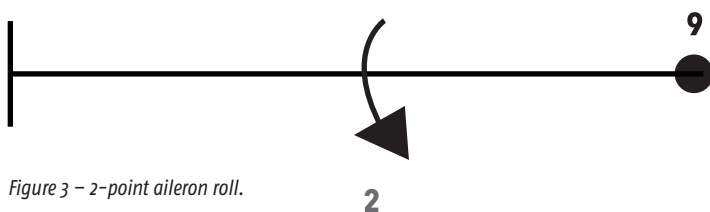
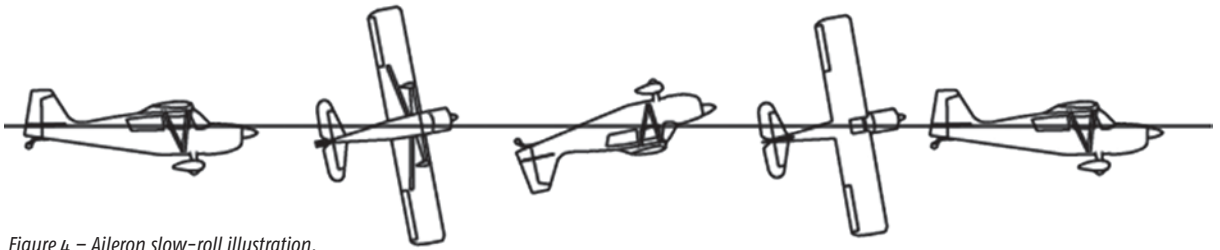

Figure 3 - 2-point aileron roll.
Figure 4 – Aileron slow-roll illustration.
**The 2-POINT AILERON ROLL:** (Figure 3) I am doing the aile- ron roll, maneuver No. 9, out of order because its elements and techniques apply to the part rolls in the Immelmann (No. 3), goldfish (No. 5), and the wedge (No. 6). See Figure 4.
As to judging, the illustration (see figure 4) of a low-horsepower/high-drag aircraft should be scored as a 10. When looking at the nose and tail above, judges have sometimes called the roll “barreled.” The nose and tail of the above aircraft will be drawing circles, but the **flight path of the center of gravity “dot” is NOT drawing a corkscrew line around a “barrel.”**